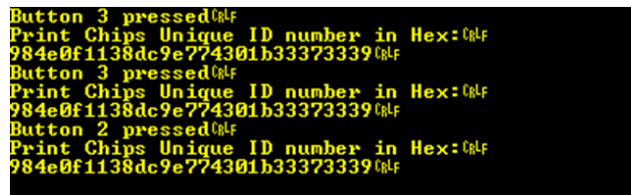

Figure 13. UART Data in RealTerm
4. Open a terminal program such as RealTerm to view the UART data from the ADuCM355 (see Figure 13). The baud rate is 230,400 bps.